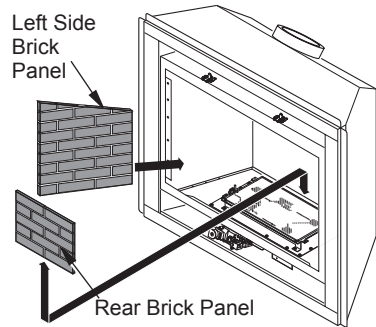

Figure 40 - Installing Rear Brick Panel
6. Install rear brick panel first. Rest bottom edge of panel on back edge of burner assembly (see Figure 40).
7. Install left side brick panel by sliding it between burner assembly and side of firebox (see Figure 40).